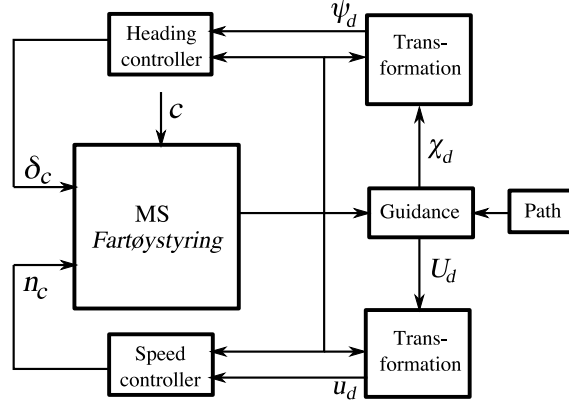

Figure 5: Controller structure for Section 2, Tasks 2.5–2.7.
**Task 2.5.** We will now include crab angle compensation in our system. Design transformations that purposefully convert  $\chi_d$  to  $\psi_d$  and  $U_d$  to  $u_d$ , see Figure 5. Justify your conversion methods, and implement them in *Matlab/Simulink*.